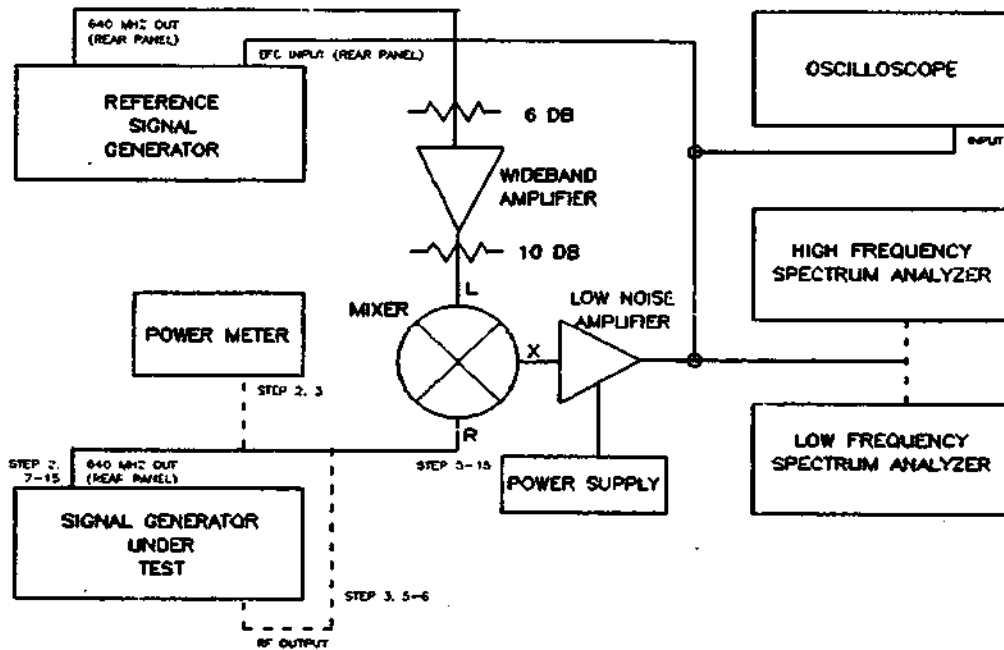

Figure 4-14. Absolute SSB Phase Noise of rear Panel 640 MHz Output (Option 003 Only) Test Setup.
1. Connect the equipment as shown in figure 4-14. Both the Reference Signal Generator and Signal Generator Under Test must have their Reference Oscillator switches set to INT. The signal level into the L input of the mixer should be in the range, +7 to +10 dBm. Change the value of the pads, if necessary, to obtain this output level.